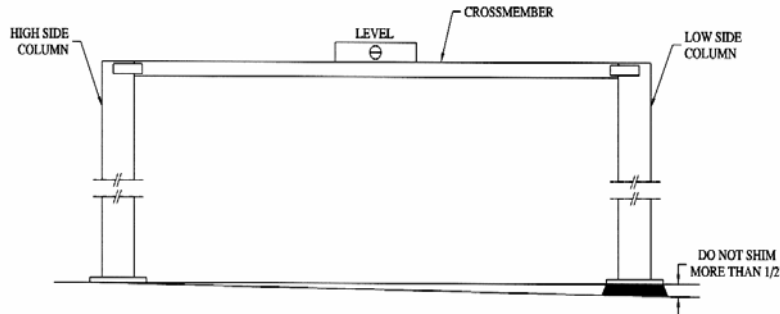
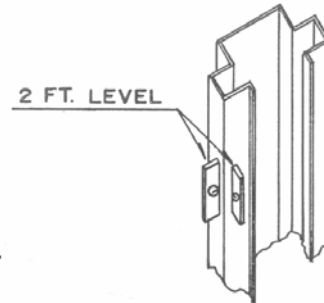
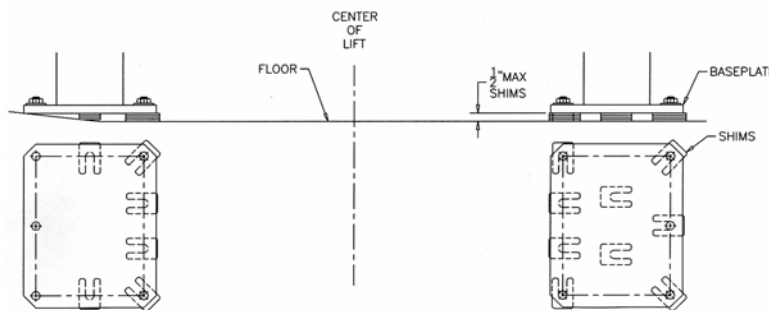

Figure 13
Figure 14
Figure 15 - Shims
- Using a 4ft. level on top of the crossmember, determine which column is higher. Refer to **Figure 13**.
- Using a 2ft. level on the sides of the high column, ensure that the column is level in the vertical position (**Figure 14**). Use shims under the column baseplate to hold the column level. Ensure that the base plate is completely supported by shims where it does not contact the floor (**Figure 15**).
5. Reconfirm that the column is level front to rear and side to side (**Figure 14**). Add or remove shims as required.
1. Using a 4ft. level on top of the crossmember (**Figure 13**) and a 2ft. level on the low side column (**Figure 14**), shim underneath the baseplate until the crossmember and column are level. Ensure that the baseplate is completely supported by shims where it does not contact the floor (**Figure 15**).
4. Reconfirm that the column is level front to rear and side to side (**Figure 14**). Add or remove shims as required.